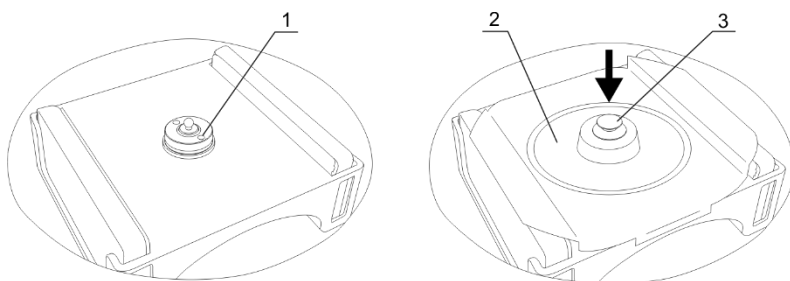

Figure 1. Rotor replacement
- Unscrew the fixation nut (fig. 1/1) counter clockwise using the wrench included in standard set and remove the nut.
- Place the rotor and secure it tightly with the fixation nut, placing the nut with the key holes up (fig. 1/1) and turning it clockwise by the included wrench.
- Place the safety cover (fig. 1/2) on the rotor by pressing the cover clip (fig. 1/3) down.